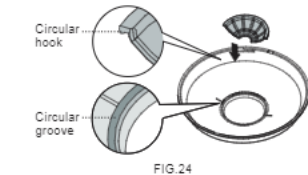
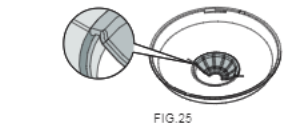

FIG. 24
FIG. 25
4.3.3 Fixing lens shield: There is a circular groove on the back of the decorative frame and the lens shield is designed with a circular hook. The lens shield can be fitted by inserting the hook of lens shield into its correspondent groove on the decorative frame (See FIG. 24 & FIG. 25).